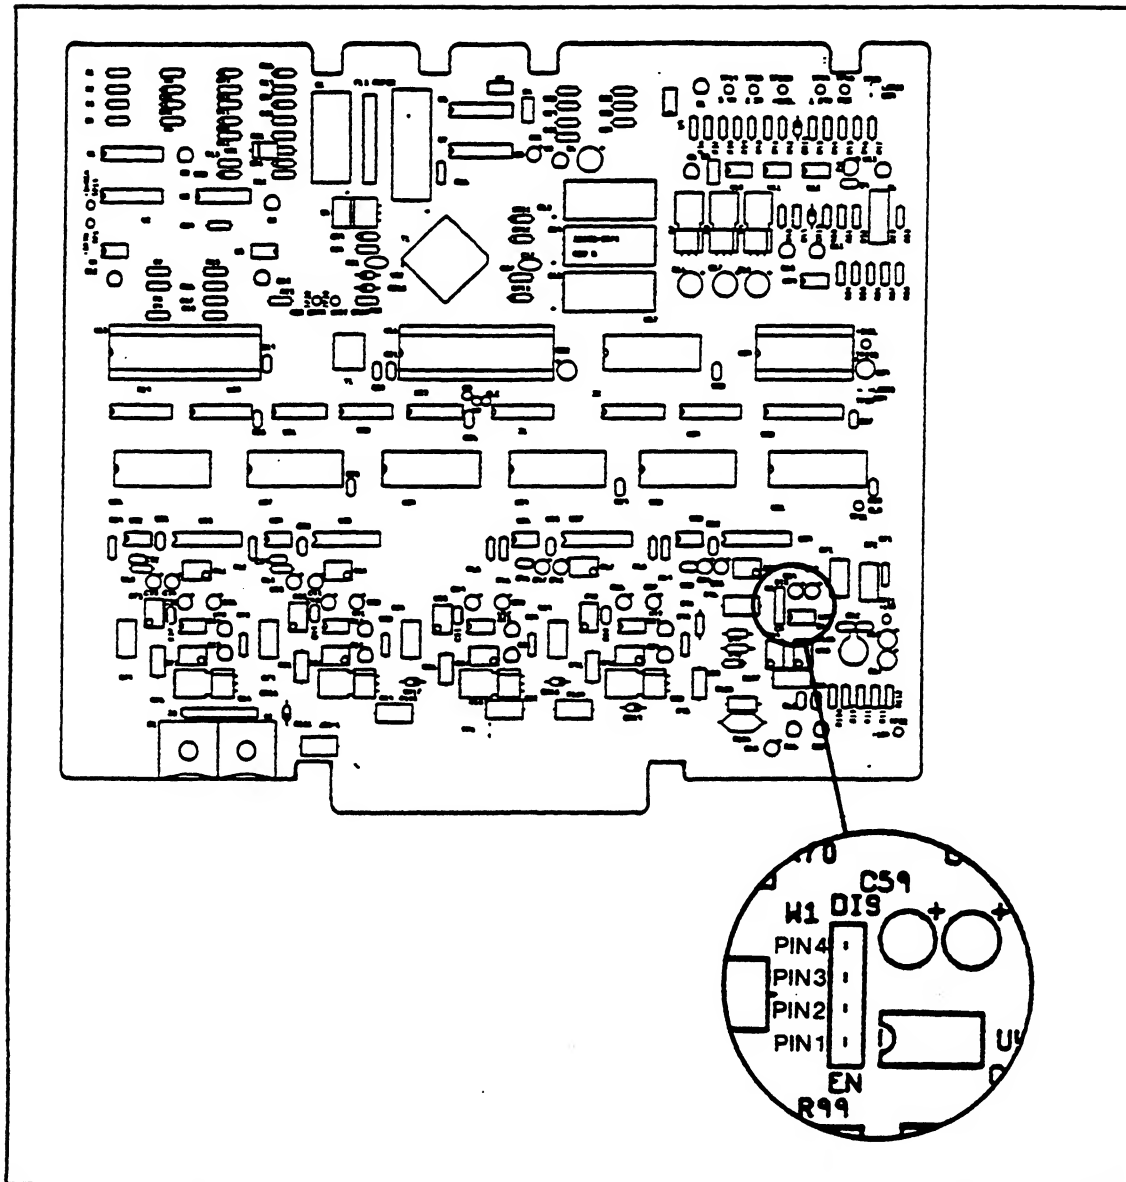

Figure 170-10. W1 Jumper and Pins
13. Power down the Front End, and install the jumper on the Analog Output at W1 (see Figure 170-10) so that pins 3 and 4 are connected. This disables the 4 mA offset.
16. Power down the Front End return jumper W1 (see Figure 170-10) so that pins 1 and 2 are connected. This enables the 4 mA offset.
(SEE FIGURE 170-10.)